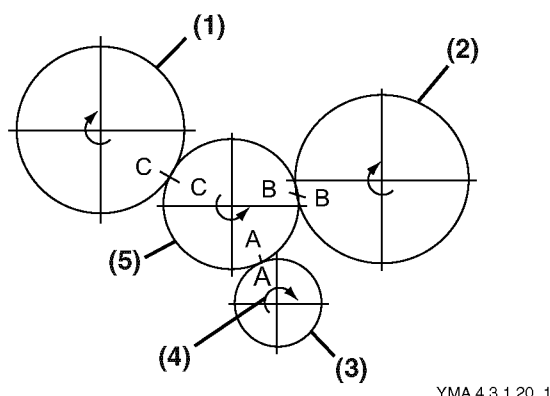

Figure 5-122
5. Align the C mark on the fuel injection pump drive gear to the C mark on the idler gear (Figure 5-122, (5)).